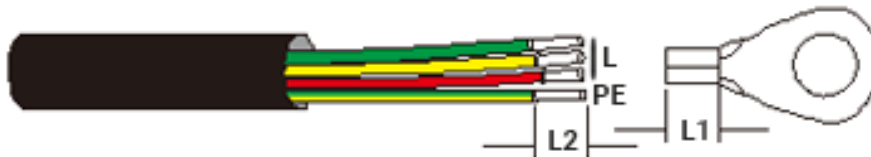

Figure 5.17 Strip AC cable
- A) Strip the end of AC cable insulating jacket about 300mm then strip the end of each wire (as shown in figure 5.17).